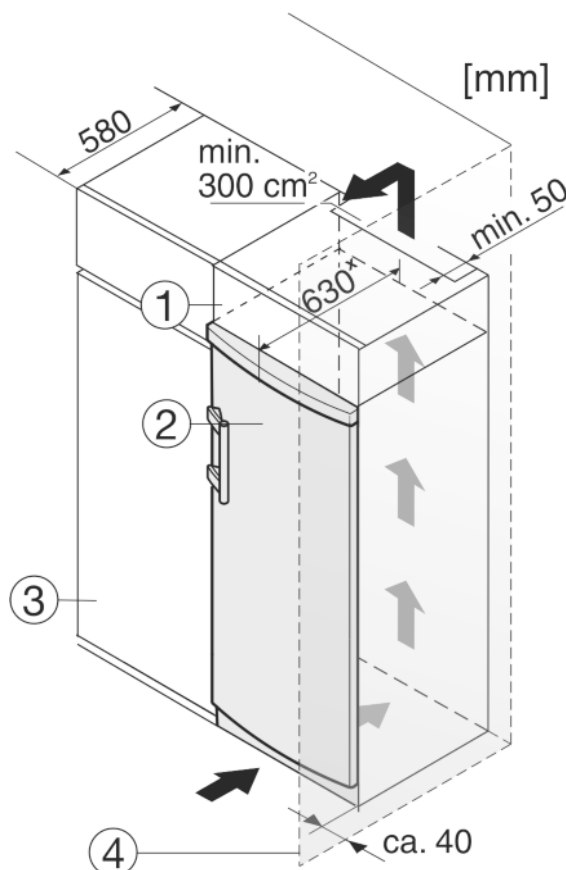

Fig. 10
The appliance can be built into kitchen units. A top cupboard *Fig. 10 (2)* can be added above the appliance in order to bring the appliance *Fig. 10 (1)* up to the height of the fitted kitchen units.
When installing with kitchen units (max. depth 580 mm), the appliance can be positioned directly next to the kitchen cabinet *Fig. 10 (3)*. The appliance will project by 34 mm \* at the sides and 50 mm \* in the centre of the appliance in relation to the kitchen cabinet front.
If the appliance is installed with the hinges next to a wall *Fig. 10 (4)*, the distance between appliance and wall has to be at least 40 mm. This corresponds to the projection of the handle when the door is open.